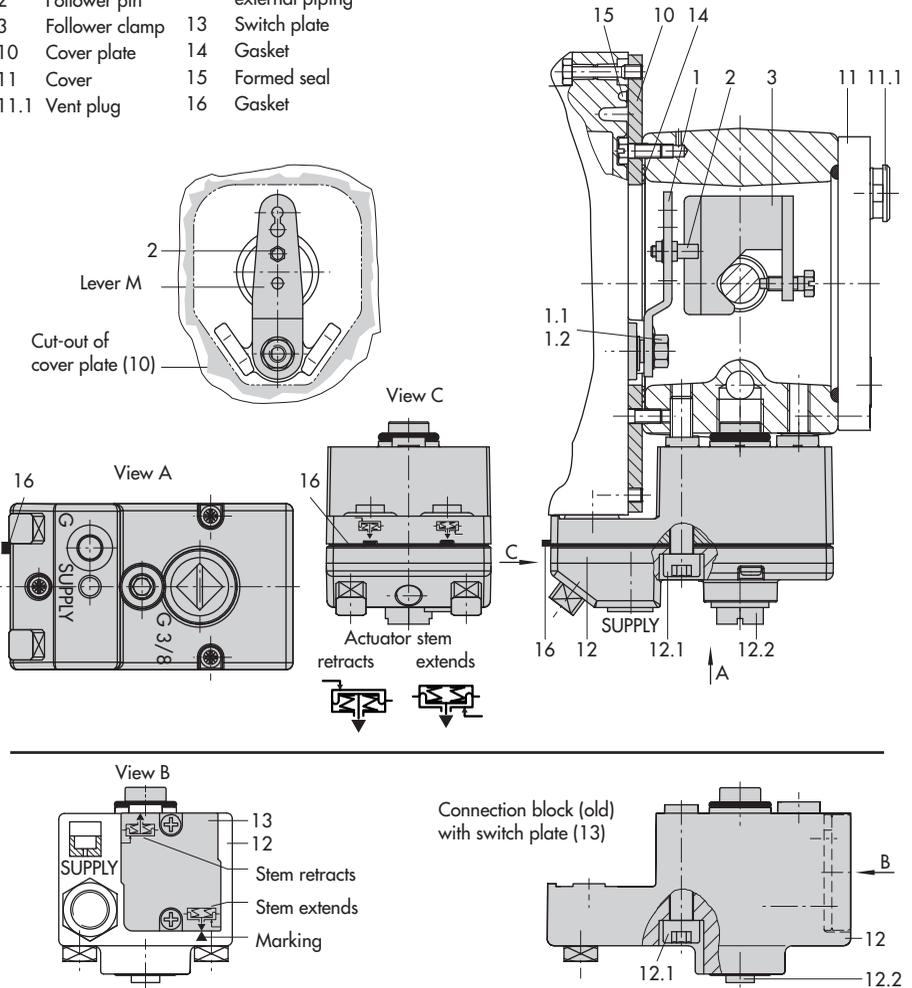

Fig. 5 - Direct attachment – Signal pressure connection for Type 3277 Actuator with 175 to 750 cm²
Mount the positioner on the yoke as shown in Fig. 5. The signal pressure is routed to the actuator over the connection block (12), for actuators with fail-safe action "actuator stem extends" internally through a bore in the valve yoke and for "actuator stem retracts" through external piping.
1. Place follower clamp (3) on the actuator stem, align and screw tight so that the mounting screw is located in the groove of the actuator stem.
2. Mount cover plate (10) with narrow side of the cut-out opening (Fig. 5, on the left) pointing towards the signal pressure connection. Make sure that the bonded gasket (14) points towards the actuator yoke.
3. For actuators with 355/700/750 cm², remove the follower pin (2) at lever **M** (1) on the back of the positioner from pin position **35**, reposition it in the bore for pin position **50** and screw tight. For actuators 175, 240 and 350 cm² with 15 mm travel, the follower pin (2) remains in pin position **35**.
4. Insert formed seal (15) in the groove of the positioner casing.
6. Make sure that the tip of the gasket (16) projecting from the side of the connection block (12) is positioned above the actuator symbol that corresponds with the actuator with fail-safe action "actuator stem extends" or "actuator stem retracts." If necessary, remove the three fixing screws and the cover. Then reposition the gasket (16) turned by 180° . The previous version of the connection block (Fig. 5, bottom) requires the switch plate (13) to be turned such that the corresponding actuator symbol points to the marking.
7. Place the connection block (12) with the associated seal rings against the positioner and the actuator yoke. Screw it tight using the fixing screw (12.1). For actuators with fail-safe action "Actuator stem retracts", additionally remove the stopper (12.2) and fit on the external signal pressure piping.